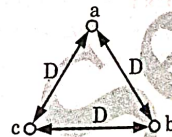

Fig. 4.6.1. Symmetrical 3 ϕ line.
1. As shown in Fig. 4.6.1, in such arrangement conductors are situated at the corners of an equilateral triangle.